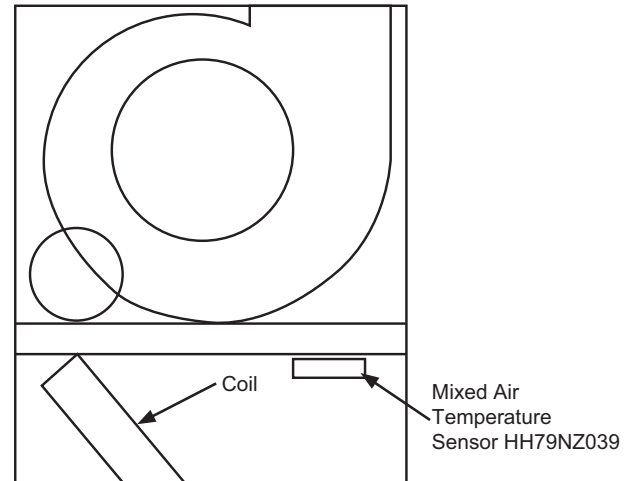

Fig. 7 — Installing HH79NZ039 Mixed Air Sensor
2. Mount the HH79NZ039 mixed-air temperature sensor inside the air handler in the blower compartment as shown in Fig. 7. Sensor must be located in airflow.
3. Connect the gray wires to the supply-air temperature sensor as shown in Fig. 7.